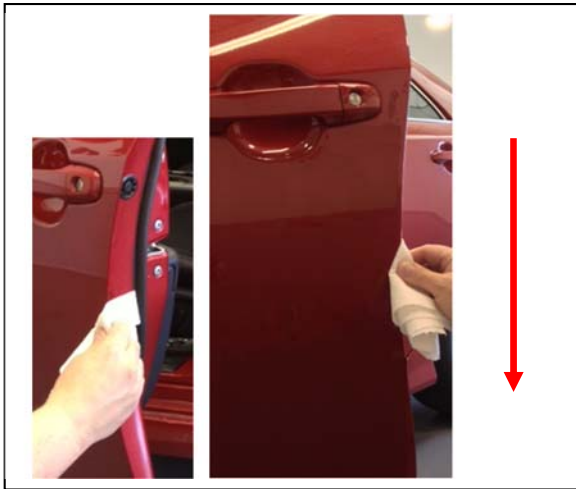

Fig. 1-2
- (b) Using the second lint free cloth, thoroughly dry the area free of Simple Green (or VDC approved cleaner) previously applied. In some instances a rubber weather seal may be found – ensure to clean between the trailing edge and rubber seal (Fig. 1-2). Turn the cloth repeatedly to attain a dry surface.
(b) Using the second lint free cloth, thoroughly dry the area free of Simple Green (or VDC approved cleaner) previously applied. In some instances a rubber weather seal may be found – ensure to clean between the trailing edge and rubber seal (Fig. 1-2). Turn the cloth repeatedly to attain a dry surface.